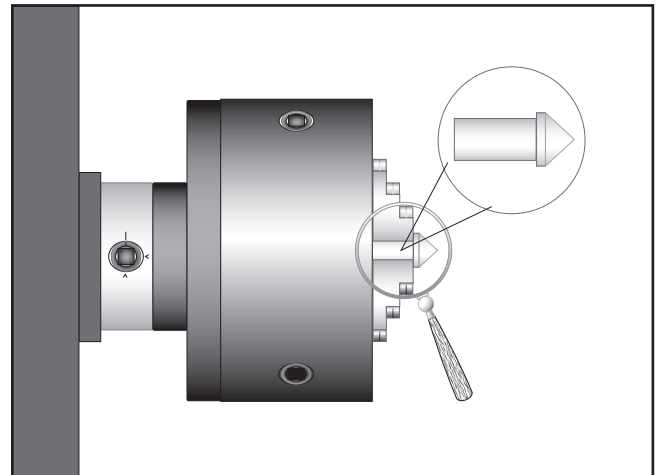

Figure 35. Tailstock centering dead center.
- Using the other piece of stock, make a dead center by turning a shoulder to make a shank. Flip the piece over in the chuck and turn a 60° point (see **Figure 35**).